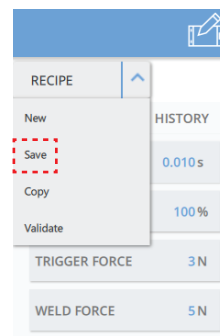

Figure 6: RECIPE dropdown > Save
4. In the recipe dropdown menu, select **SAVE** (see **Figure 6**)